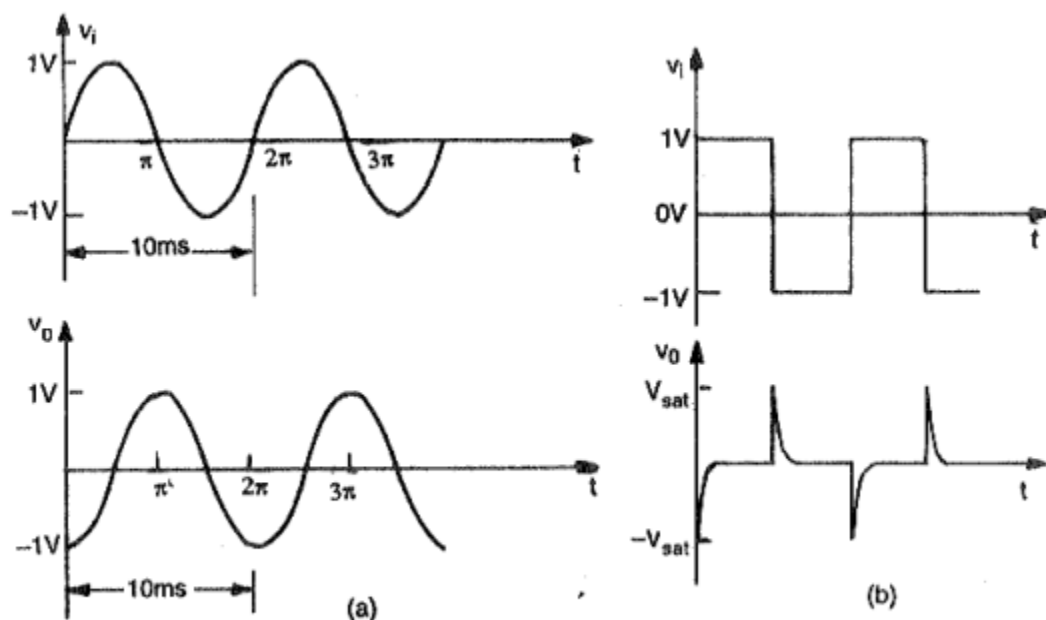

Fig. 4.22 (a) Sine-wave input and cosine output (b) Square wave input and spike output
The input and output waveforms are shown in Fig. 4.22 (a).
- (c) For a square wave input, say 1V peak and 1 KHz, the output waveform will consist of positive and negative spikes of magnitude V_{sat} which is approximately 13V for $\pm 15\text{V}$ op-amp power supply. During the time periods for which input is constant at $\pm 1\text{V}$, the differentiated output will be zero. However, when input transits between $\pm 1\text{V}$ levels, the slope of the input is infinite for an ideal square wave. The output, therefore, gets clipped to about $\pm 13\text{V}$ for a $\pm 15\text{V}$ op-amp power supply as shown in Fig. 4.22 (b).